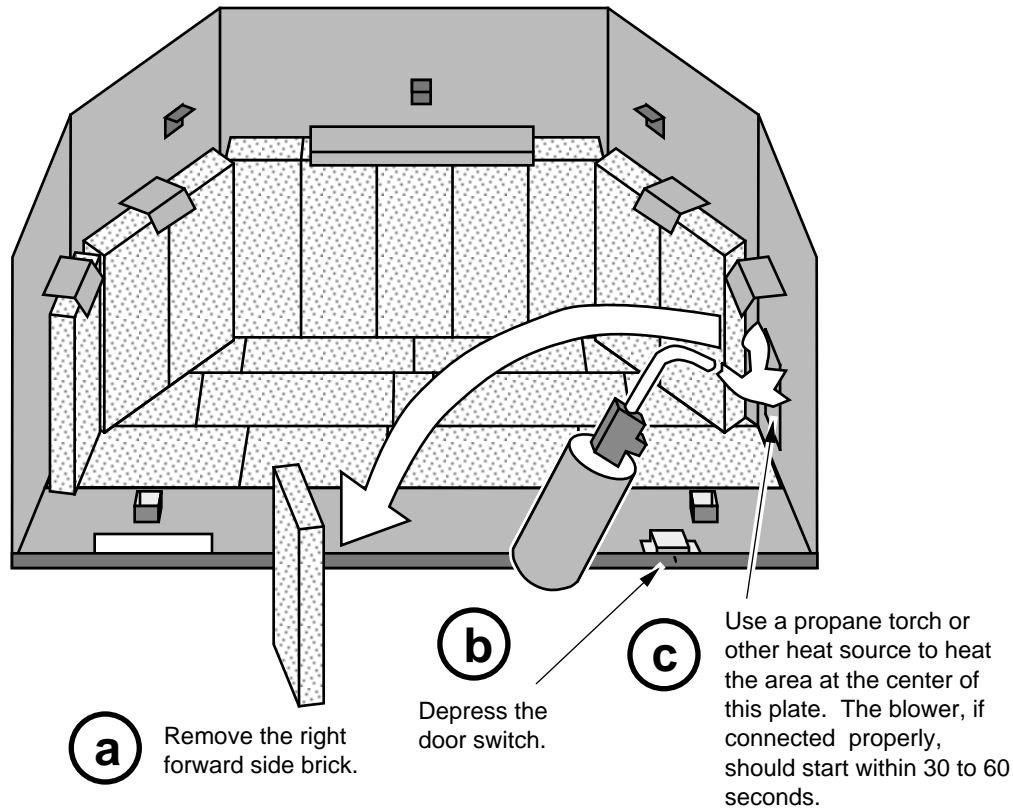

Figure 36
- Test the blower circuit by following the directions in Figure 36.